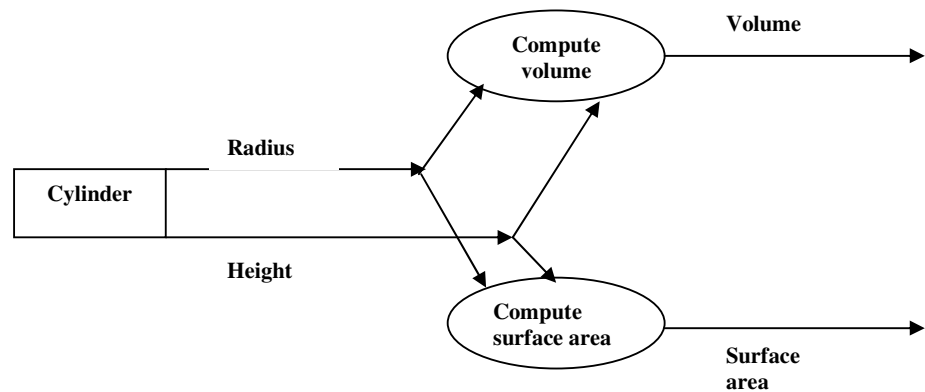

Figure 13: Data flow diagram for computing volume and surface area of a cylinder.
- 3) The data flow diagram for computing the volume and surface area of a cylinder is given in *Figure 13* below.